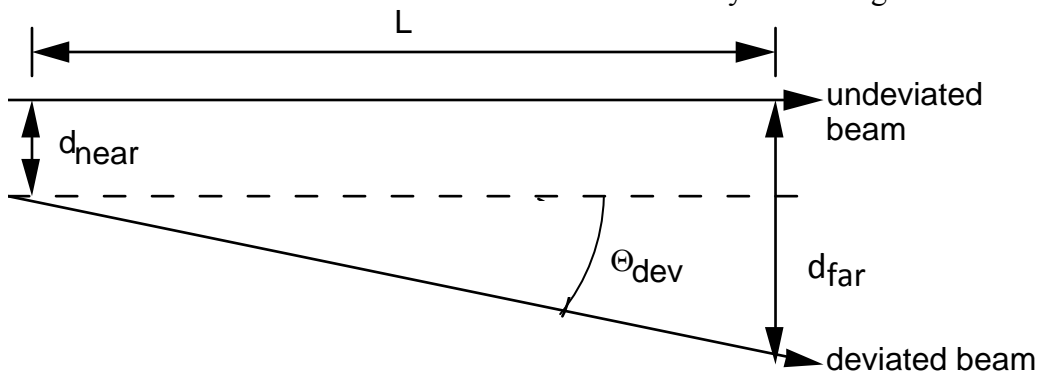

Fig. 5: Deviation of beam going through slab.
9. In practice, the laser beam may emerge not only parallel-displaced laterally as the theory of the optical micrometer suggests, but also making some angle  $\Theta_{\text{dev}}$  with respect to the incident path. This might happen, for example, if the slab is not a perfect rectangle. Referring to figure 5 below, you will measure the beam displacement as a function of the incidence angle both for a screen near the optical table, and for one a distance  $L$  farther away. If the displacement is strictly parallel, the displacements for the near and far positions should be identical for each incidence angle. Use your section 7 data and the equation below for the deviation angle in *radians*: